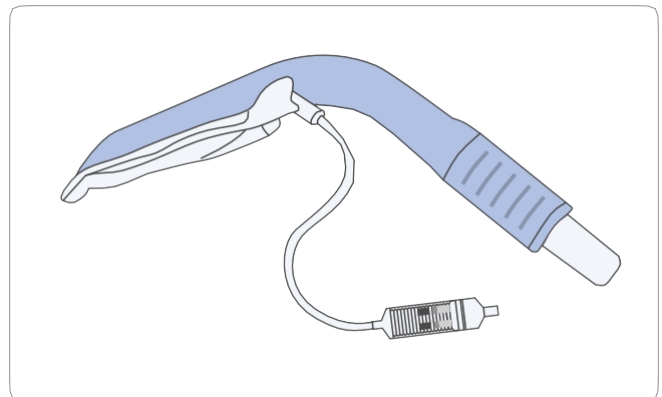

Figure 8. After achieving wedge shape cuff during deflation, disconnect the syringe from the inflation line
4. Keep the syringe under tension whilst rapidly disconnecting it from the inflation port. This will ensure that the mask remains correctly deflated, as shown in **Figure 8**.